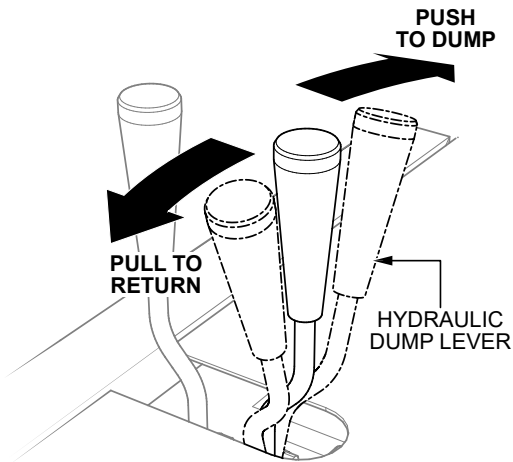

Figure 26. Hydraulic Dump Lever
1. Push the hydraulic dump lever (Figure 26) forward to place the drum in the dump position (Figure 27).